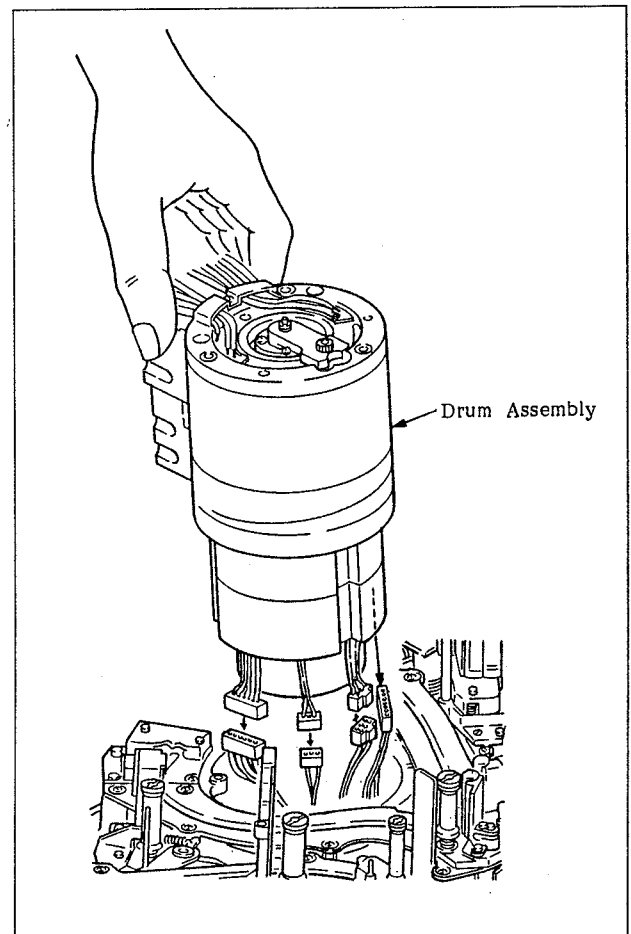

Fig. 6-8 Disassembling the Drum Assembly
6. Lift up the drum assembly, as shown in the figure, and then disconnect the four connectors. (Fig. 6-8)
7. Holding replacement drum in one hand, insert the four connectors, CN1, CN2, CN3, and PRT, into their specified positions. (Fig. 6-8)